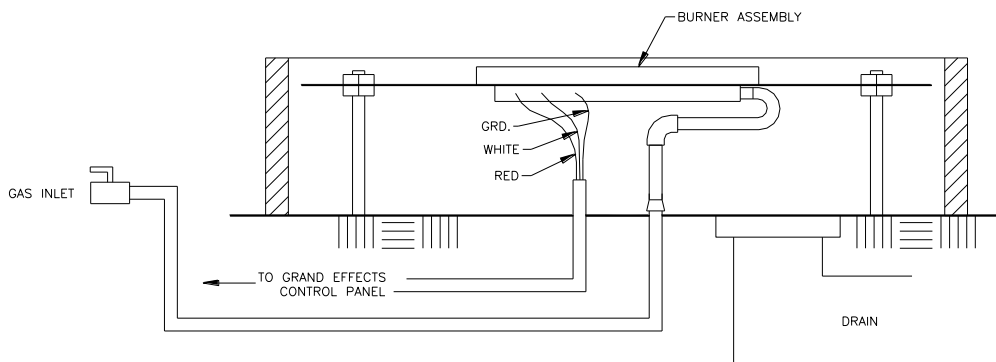

Fig. 6
- 3.0 Install Burner Assembly as shown in Figure 6. The Burner Assembly shall be centered and supported by the "SUPPORT Plate".
- 3.1 Connect Gas Hose to Burner Assembly as shown in Figure 6.